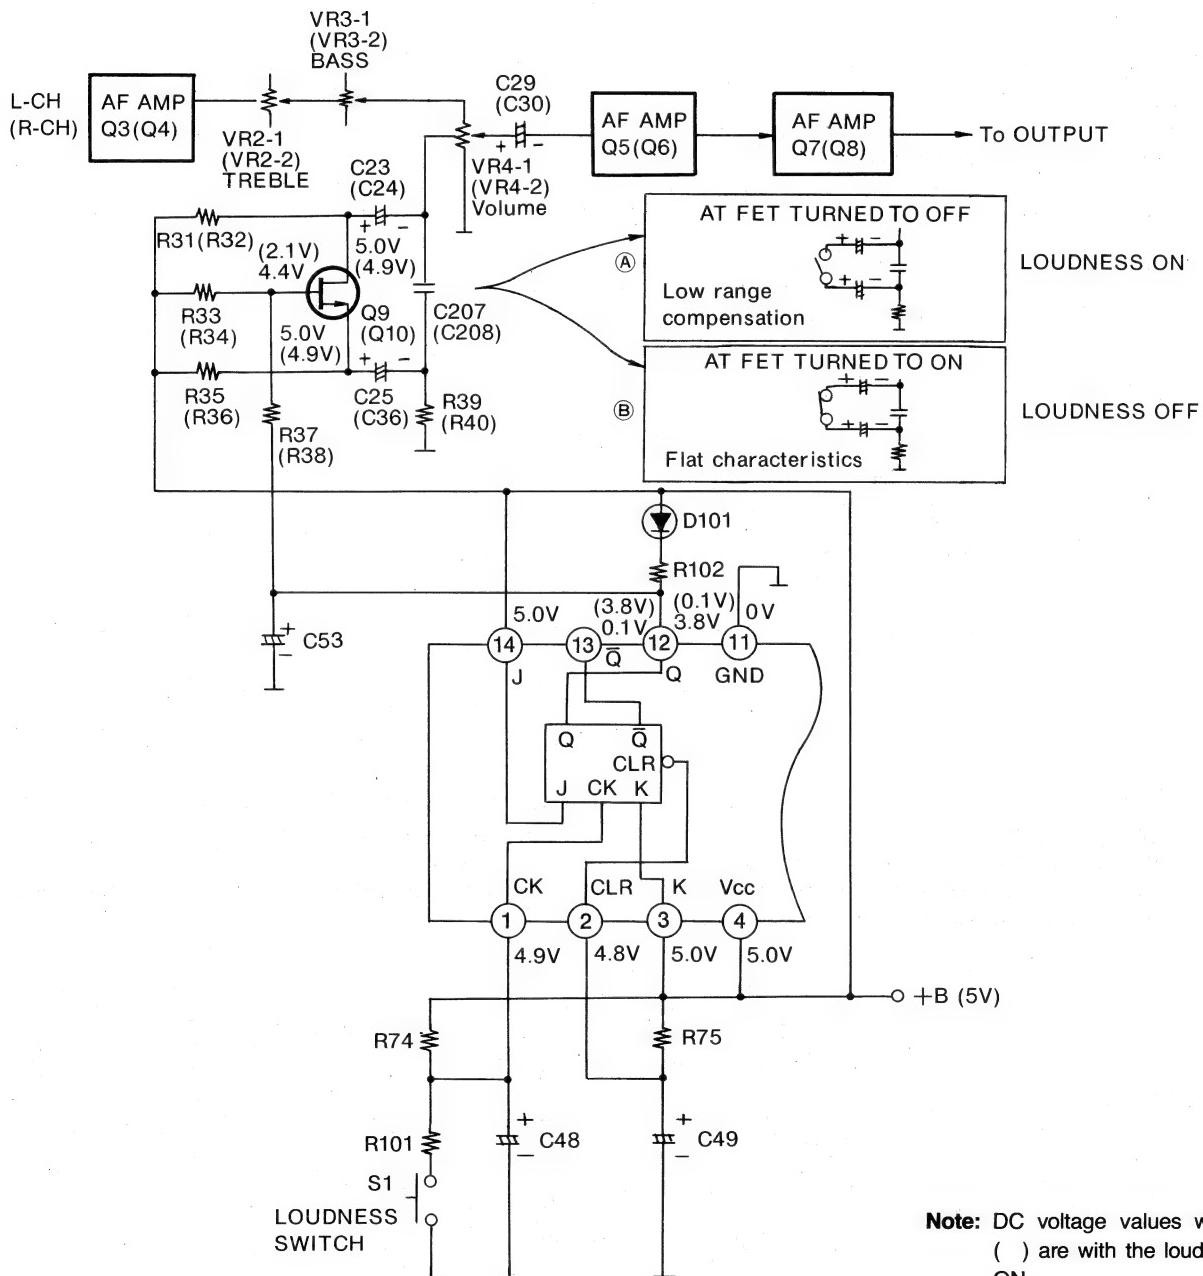

Fig. 34 Loudness-control circuitry-Preamp
1. In the circuit shown in figure 34, when the power source is turned on, the output "Q" of the J-K flip-flop becomes "L" therefore the gate voltage of the FET switch Q9 (Q10) becomes low level, and Q9 (Q10) is off at this time.
2. When Q9 (Q10) is off, the source-drain interval of Q9 (Q10) is opened, so it can be expressed by equivalent circuitry such as shown in Fig. 34 A).
3. As can be seen in the circuit shown in Fig. 34 A, the mid- and high range is decreased by C207 (C208) to the level set by R39 (R40), and, as a result, the low range becomes the increased frequency response.
7. In the circuit shown in Fig. 34 B, the electrostatic capacity of the electrolytic condenser is set very big compared to C207 (C208), and, for that reason, the AF signal frequency response becomes flat to the level determined by R39 (R40).